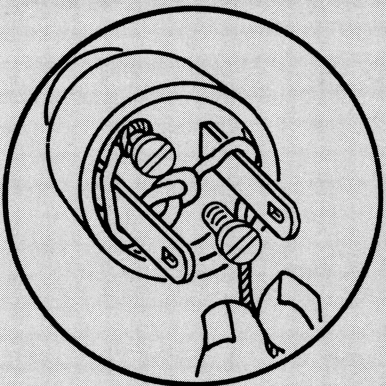

Fig. 8
8. Pull one wire around each terminal to the screw. (Fig. 8).